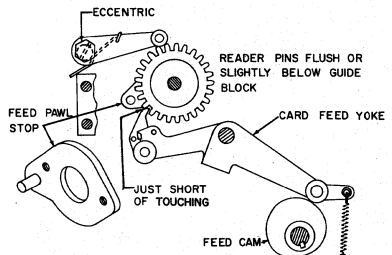

Figure 31
- Manually cycle the reader until the feeler pins have read and are moved down flush or very slightly below the guide block. Loosen the detent arm eccentric (Figure 31) and adjust it, keeping the high point up, so that the ratchet wheel is moved to a position just short of touching the partially operated feed pawl and tighten the locking nut. Pivot the feed pawl back and forth to be sure that it doesn't touch the ratchet wheel. This adjustment provides the start of the feed just as soon as the feeler pins are out of the way of the tab card.